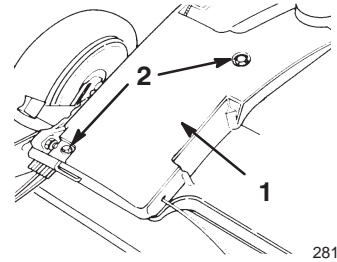

Figure 21
2. Remove the cover (Fig. 21).
2. Remove the bolts that secure the belt cover to the housing (Fig. 21).